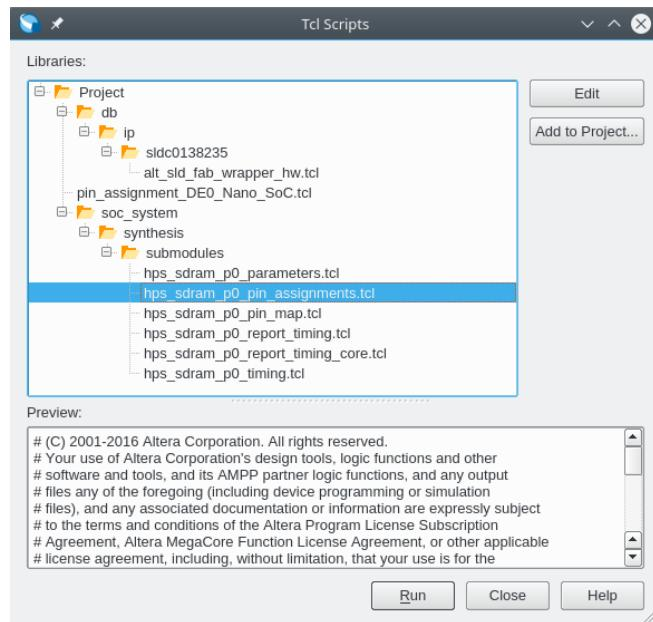

Figure 9-17. Correct HPS DDR3 Pin Assignment TCL Script Selection
**IF AT THIS POINT YOU DO NOT SEE THE SAME THING AS ON Figure 9-17, THEN CLOSE AND
SEE THE SAME THING AS ON Figure 9-17.**